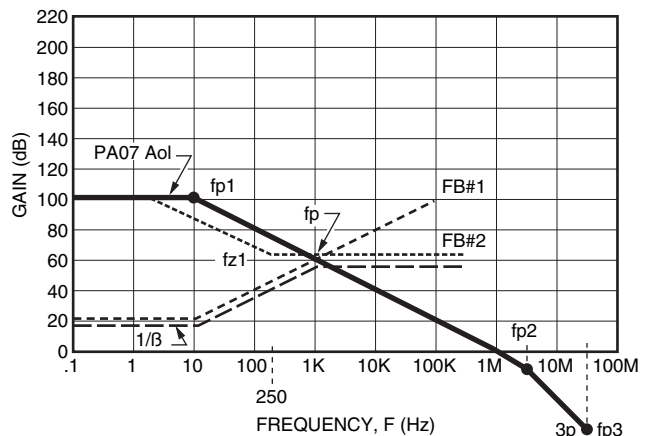
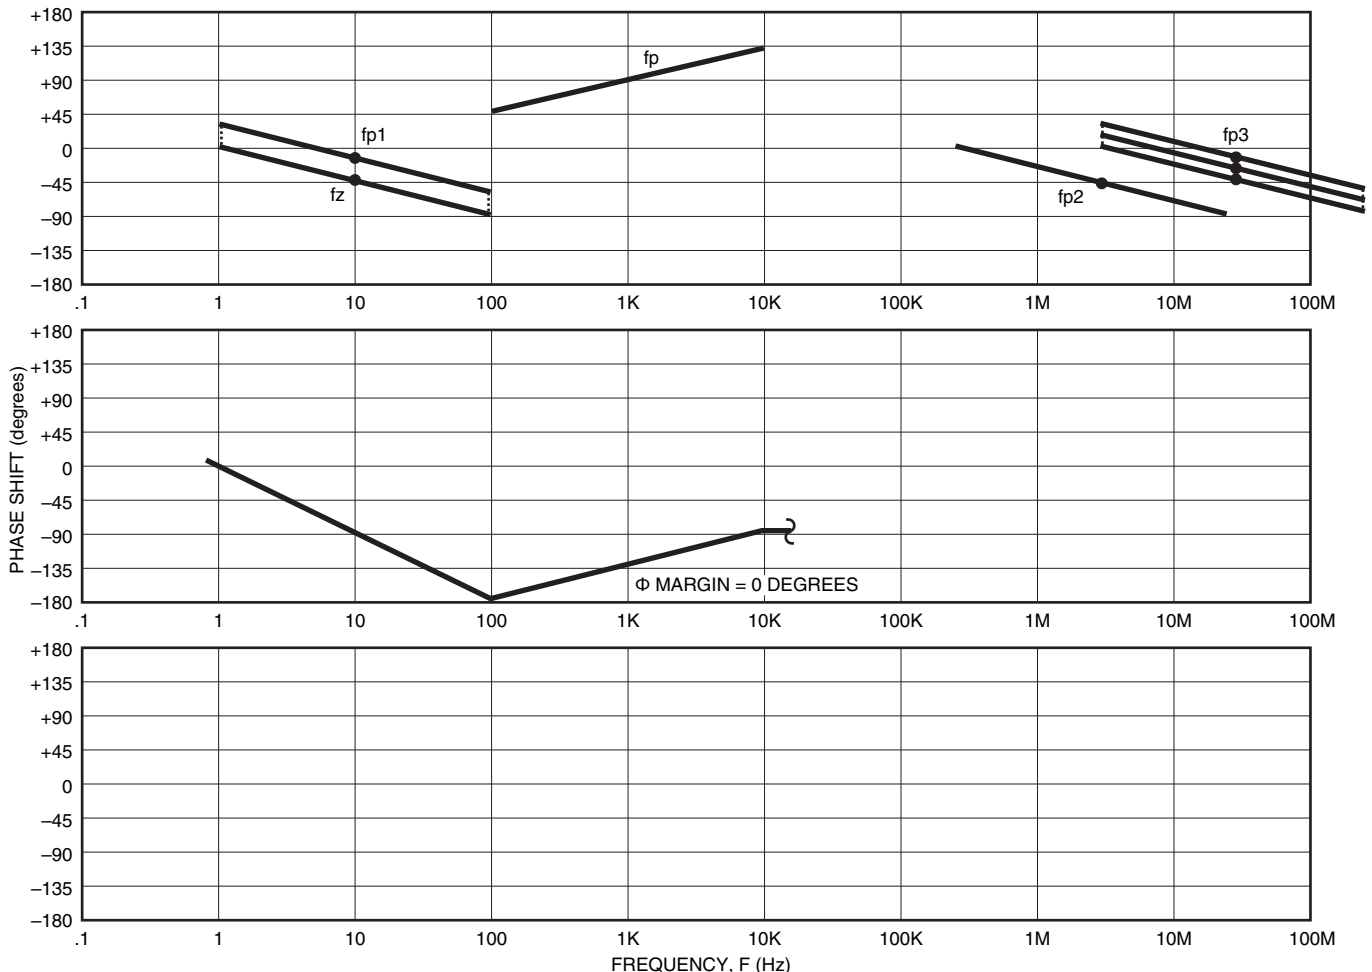

FIGURE 19. FIRST GUESS MAGNITUDE PLOT FOR STABILITY
FIGURE 20. FIRST GUESS OPEN LOOP PHASE PLOT FOR STABILITY
STEP 3: Refer to Figure 19 which repeats PA07 Aol and FB#1. We will add FB #2 to force the high frequency part of the $1/\beta$ curve to flatten out and intersect the PA07 Aol curve at 20 dB per decade. FB #2 will dominate at frequencies above 1 KHz. Although our V-I circuit has two feedback paths, the op amp will follow whichever feedback path is dominant. This means the larger β is, the more volt-
STEP 4: In Figure 19 the long-dashed line represents the $1/\beta$ feedback path that the PA07 operates in for small signal AC. According to our first order check for stability we see a 20 dB per decade rate of closure indicating a stable design. But let’s do our complete stability check by using the $1/\beta$ curve and PA07 Aol curve to plot the open loop phase plot. Remember the following rules when plotting open loop phase plots for stability checks.
Figure 20 is the resultant open loop phase plot using the information from Figure 19. After plotting individual open loop poles and zeroes, and drawing the appropriate slopes, we graphically add the slopes to yield a resultant open loop phase as shown in Figure 20. Notice f_{p3} in Figure 20 is a triple pole. It is easier to plot this as shown in Figure 20 as three poles “on top” of each other. This makes it easier to add graphically for a resultant open loop phase plot. As shown in Figure 20, our open loop phase dips to -180 at 100Hz. Our first attempt at compensation was not successful since we desire at least 45 degrees of phase margin (open loop phase should not dip to less than -135 degrees).